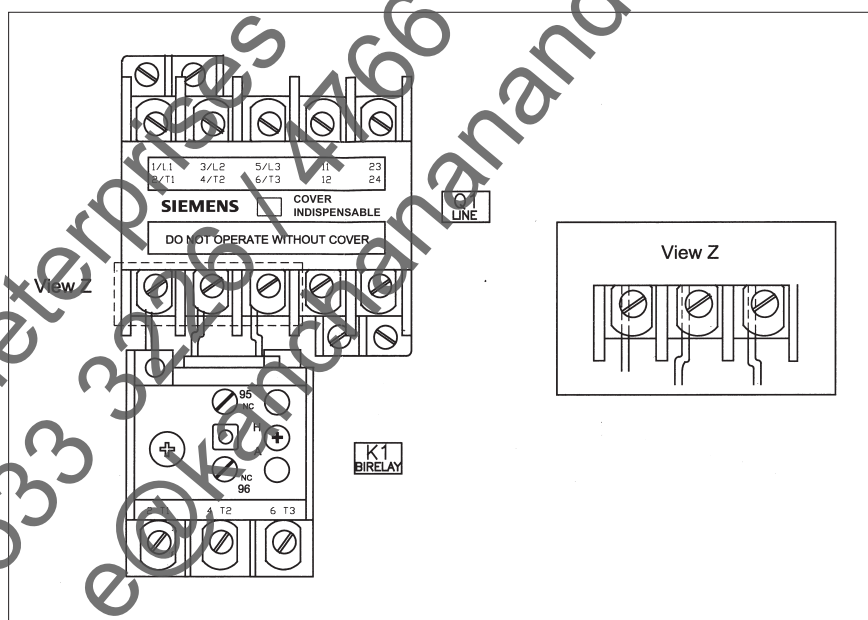

Fig. 8 : Relay Refixing
3. Refer Fig. 8 for details.
Care should be taken to fix the relay terminals in the exact position shown in Fig. 8